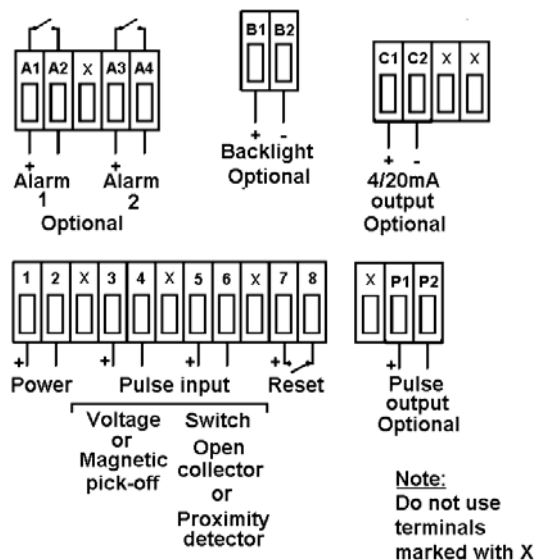

Fig 7 Installation and terminal connections
- b. Fix panel mounting clips to opposite sides of the instrument and tighten until the instrument is secure as shown in Fig 7. Four clips are required to achieve an IP65 seal between the instrument enclosure and the panel.
- c. Connect the panel wiring to the rear terminal block(s) as shown in Fig 7. To simplify installation, the terminals are removable so that panel wiring can be completed before the instrument is installed.